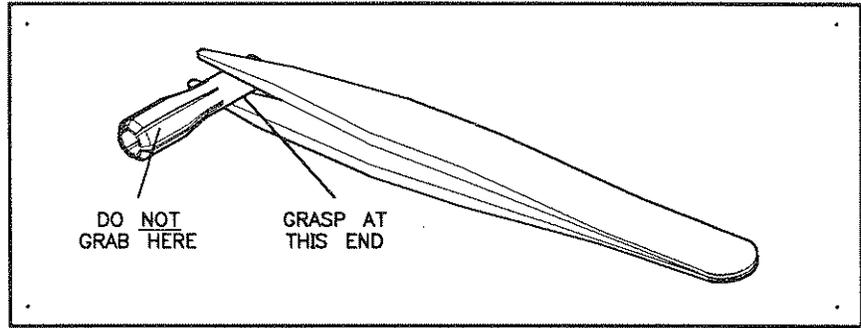

Figure A-16. Holding the Inner Contact Properly
1. Using tweezers, carefully pick up a new inner contact by its small-diameter end (away from the fingers, see Figure A-16). Do not use excessive pressure. Holding the contact by the fingers will damage it.